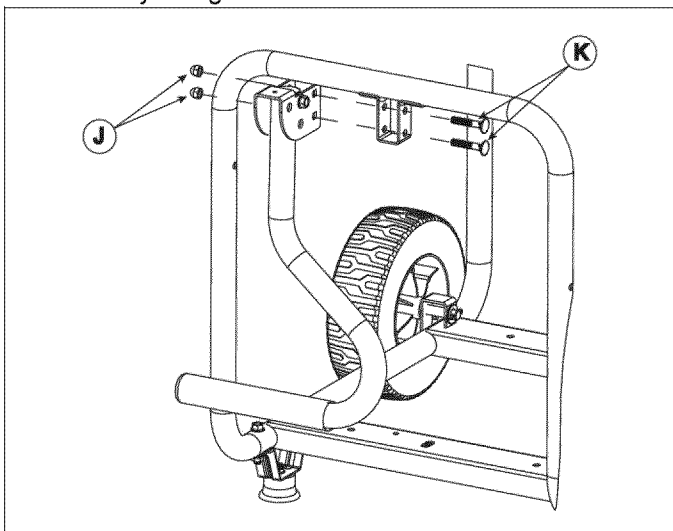

Figure 2-3. Handle
1. Place the handle over the frame tabs as shown. (Figure 2-3).
2. Slide Carriage Bolts M8 (K) through the handle brackets and tabs.
3. Place a nut (J) on each Carriage Bolt (K) and tighten securely using a ratchet and a 13 mm socket.